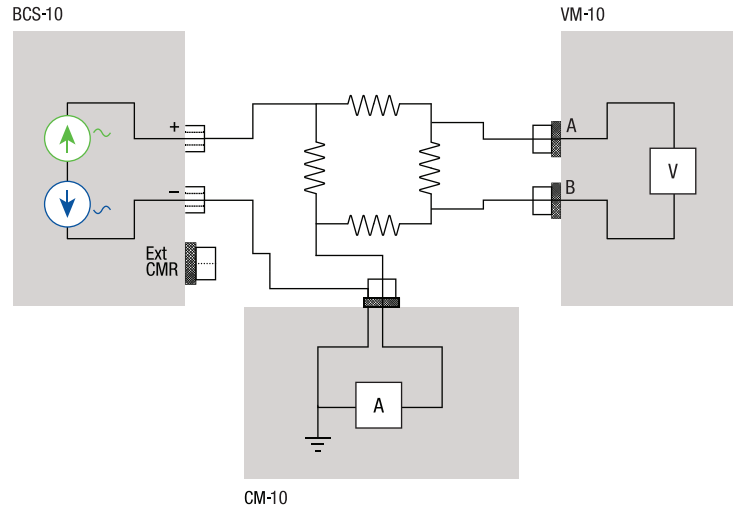

Figure 10 Using a CM-10 with a BCS-10 — **do not use the CMR in this case**
If you want to use a current measurement module (CM-10) to measure the current from the BCS-10, then since the CM input is a virtual ground, you must ground the I- output of the BCS-10 as shown in Figure 10. This effectively converts the balanced current output of the BCS-10 to a single-ended current source. In this case, the CMR function must be turned off.
The M81-SSM system provides many unique source and measure capabilities that enhance noise rejection in low-level signal applications, such as differential (balanced) source and measure connections. In addition, the BCS-10 module's CMR function can be used to increase the accuracy of a measurement and decrease the noise of the measurement. Except for the case described in Figure 10, the CMR function should always be used in external mode. Typically, the external CMR connection on the BCS-10 module should be connected to the V- (B) input of a VM-10 module.